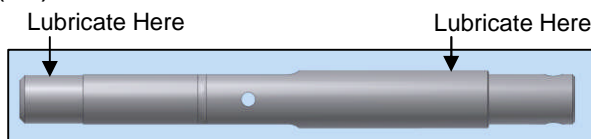

Fig. 17
16. Lubricate Shaft (9) with Parker Super Lube (or equivalent) as indicated in Fig. 17 and replace into bore with Link (19), push shaft all the way in. Use New Spring Pin (19) to secure link to shaft with hammer. Return to step 12.
39. Follow steps 1 to 13 to remove current Shaft (9) without discarding any parts except for the Retaining Ring (16).
40. Lubricate New Shaft (9) with Parker Super Lube (or equivalent) as indicated in Fig. 17 and replace into bore with Link (17), push shaft all the way in. Use New Spring Pin (19) to secure link to shaft with hammer.